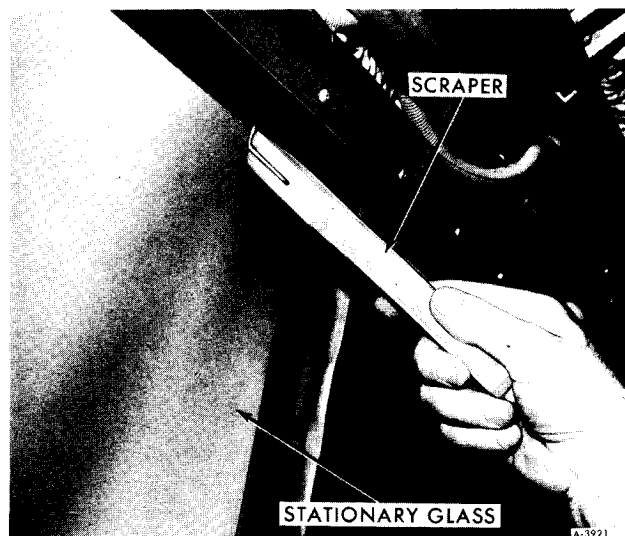

FIGURE 8
4. From inside the vehicle, pry the stationary glass from the butyl sealer, using a scraper as shown in Figure 8. An assistant, standing outside the vehicle, should support the glass during removal.